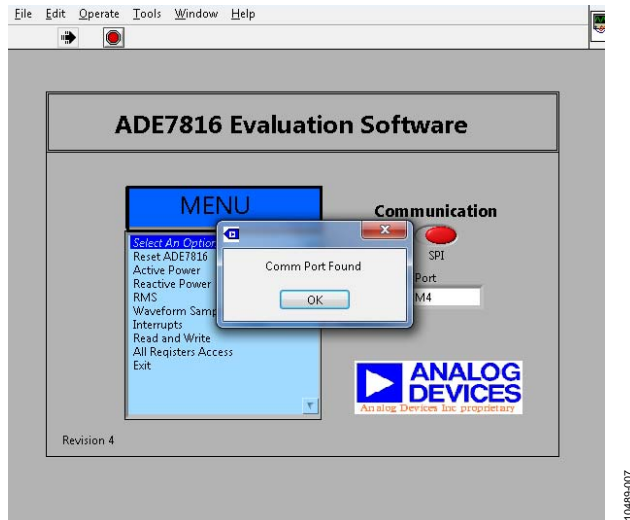
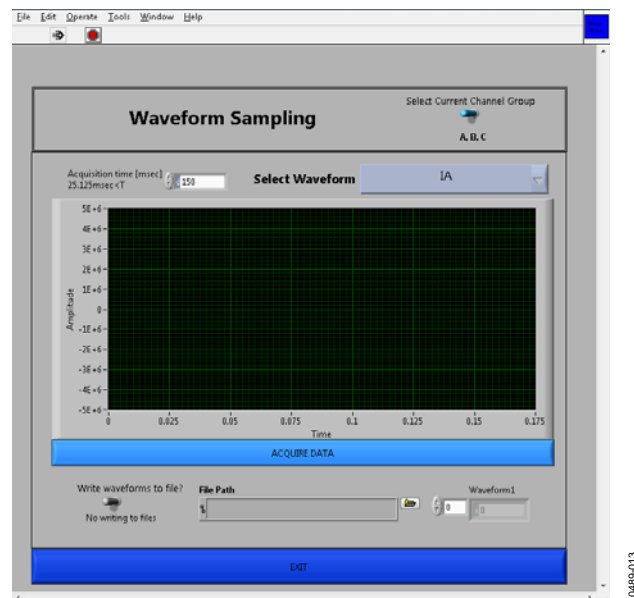

Figure 7. ADE7816 Evaluation Software Main Window
Figure 13. Waveform Sampling Window
When the evaluation software is running, it automatically detects the COM port that the ADE7816 evaluation board is connected to. If the port detection is successful, the COM port number appears in the **Port Control** field, as shown in Figure 7 (COM4 in this example).
1. Click **Yes** to return to the ADE7816 Evaluation Software main window (see Figure 7).
The **ADE7816** evaluation software allows access to all registers and features of the **ADE7816** using SPI, I2C, and HSDC communication. By default, the evaluation board is configured to be used with SPI. To change the mode of communication to I2C, change the JP31, JP32, JP33, and JP34 jumpers to Position 1, Position 2. Then, change the communication switch in the main window of the evaluation board software to I2C (see Figure 7). Once a menu option is selected, the communication mode locks. To change the communication after this time, the **ADE7816** must be powered down by removing the power on P9.
These options provide access to all internal registers and allow the evaluation of the performance of the **ADE7816** (see Figure 7). To access these functions, click the desired option in the **MENU** panel. Click on an option under **MENU** to display a window where the specific function can be accessed.
The **Waveform Sampling** window is shown in Figure 13. To use the **Waveform Sampling** window, I2C must be selected as the communication interface (see Figure 7) in the ADE7816 Evaluation Software main window. The I2C interface is used in conjunction with the HSDC interface (see the ADE7816 data sheet).
Now, go to the ADE7816 Evaluation Software main window and click **Exit** from the menu drop-down list (see Figure 7). Verify that the correct COM port is selected and ensure that the currently configured communication mode is selected in the pull-down list. Refer to Table 1 to verify that the correct jumpers are installed for the selected communication interface.